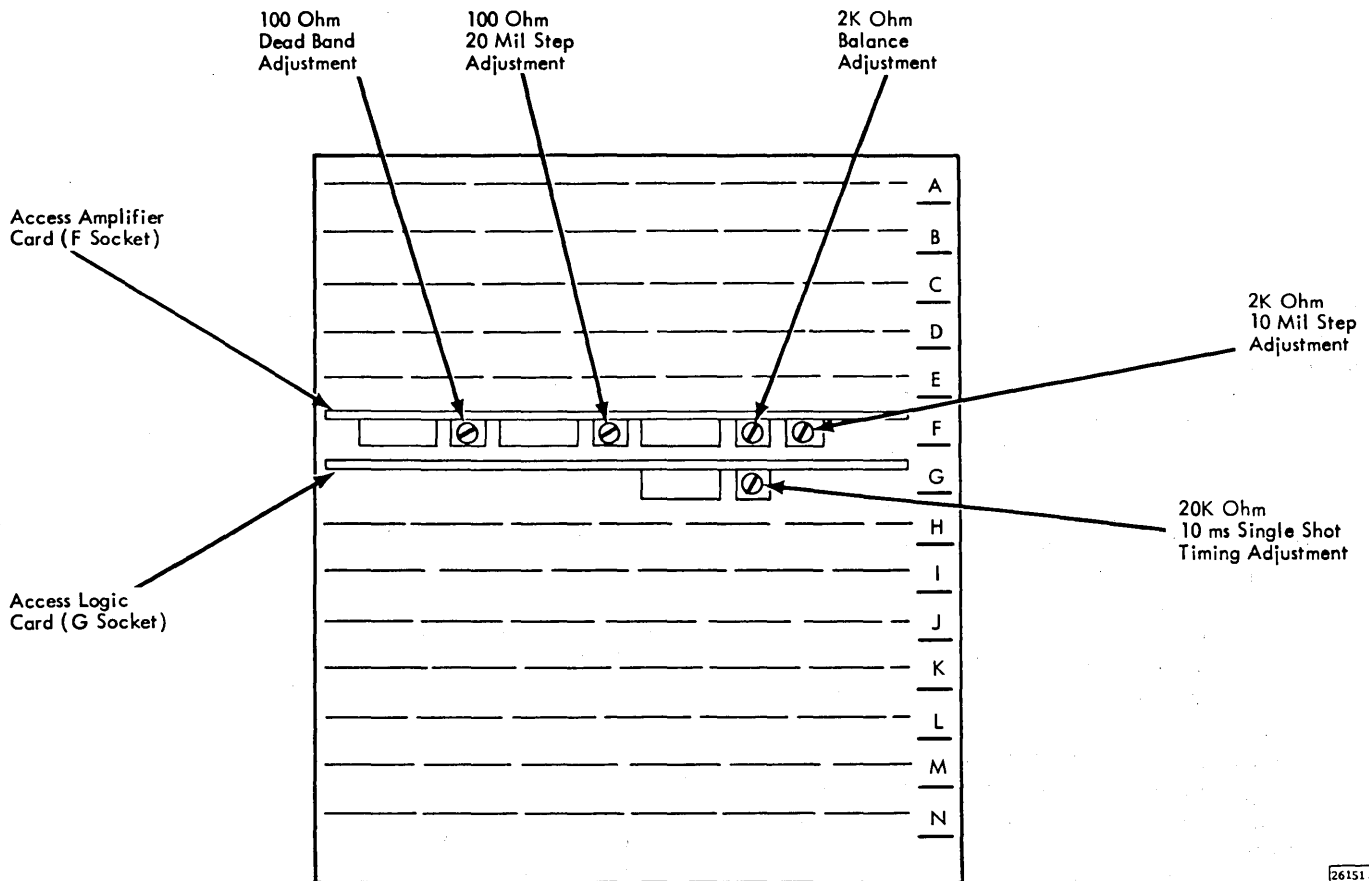

Figure 4-3. Access Adjustment, Potentiometer Locations
NOTE: The location of potentiometers involved in access adjustments is shown in Figure 4-3. Some of the adjustments are inter-related; therefore, all four adjustments must be checked whenever a new SLT card is installed for the access amplifier or access logic circuits. These adjustments must also be checked whenever components of the actuator assembly are replaced. If a new access amplifier card is used, the 100-ohm, 20-mil step potentiometer may be initially adjusted for 4.0 volts, measured at pin F2B2 and the 2k-ohm, 10-mil step potentiometer may be adjusted for 5.0 volts using the same pin.
- c. Use a multimeter to measure the tachometer amplifier output voltage between pins F2B12 and F2D11. Adjust the 2k-ohm balance potentiometer (Figure 4-3) located on the access amplifier card to obtain a zero (balanced) voltage condition across these pins.
The location of the potentiometers used in these adjustments is shown in Figure 4-3.